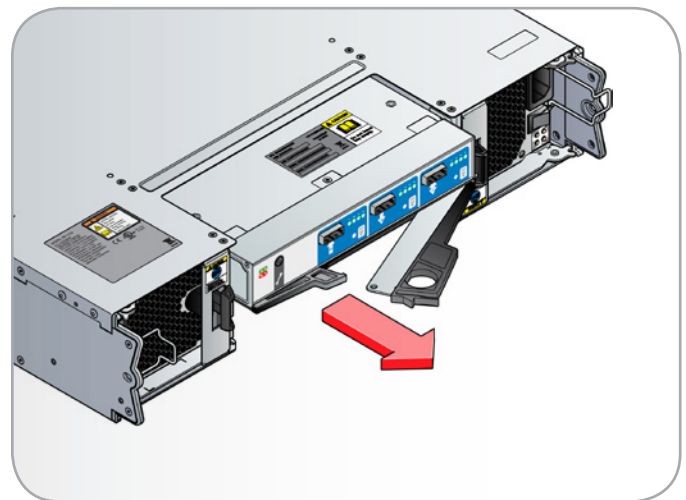

Fig. 78 - Removing the Disk I/O Module
3. Using the latch as a handle, withdraw the Disk I/O module (*Fig. 78*).